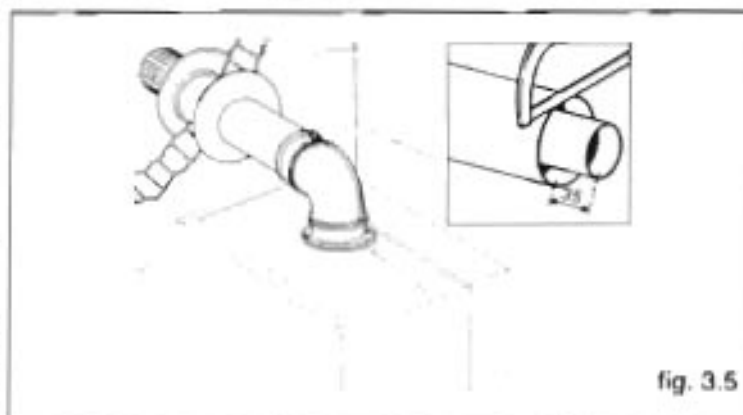

fig. 3.5
During the drilling of the hole for the flue air intake, ensure that its diameter is larger than the pipe. This is to ensure that the pipe can be removed if required. The seal between pipe and wall is assured by internal and external flanges (see figure 3.5 below).
N.B.: When shortening the flue pipe, cut the external 100 diam. pipe and the internal 60 diam. pipe, keeping the original difference in length between the two (35 mm). (see fig. 3.5).